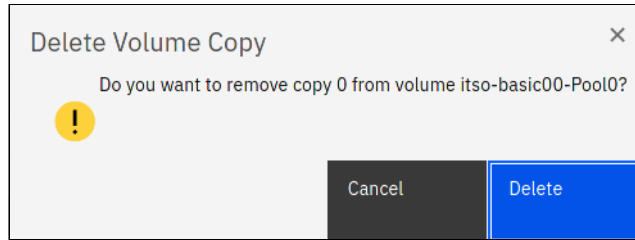

Figure 6-84 Confirming the deletion of a volume copy
5. Confirm the removal of the volume copy, as shown in Figure 6-84 on page 445.